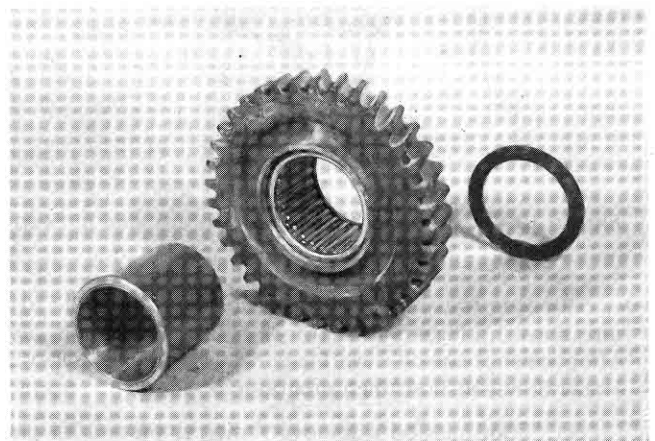

Figure 24 — Rework 1st gear, special thrust washer and needle bearing.
7. Special first gear roller bearing unit (P/N 326576) consisting of reworked 1st gear, special thrust washers and needle bearing is suggested in place of the production 1st gear. (Figure 24, page 4-12)